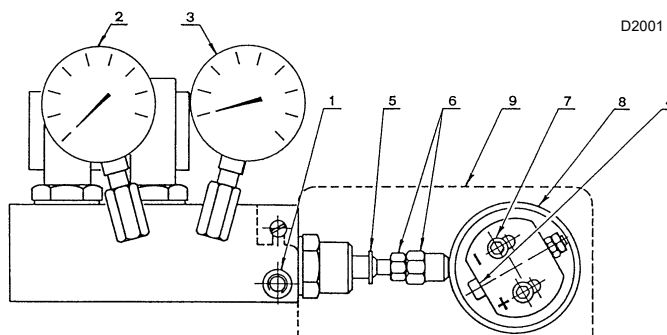

Fig. 25
The pressure variation on the return line (pressure gauge, 3) Fig. 25 on page 28) changes the flow rate of the fuel coming out of the nozzle.
- For a correct calibration, the eccentric (8) must operate on the entire range of travel of the servomotor ($20^\circ \div 130^\circ$): a pressure variation must correspond to each servomotor variation.
- Never drive the variator piston fully home: the stop ring (5) determines the maximum stroke.
- If at the maximum delivery of the nozzle (maximum pressure on the return line) pressure oscillations can be seen on the pressure gauge (3), slightly reduce the pressure until they disappear (Fig. 25).
Key (Fig. 25)